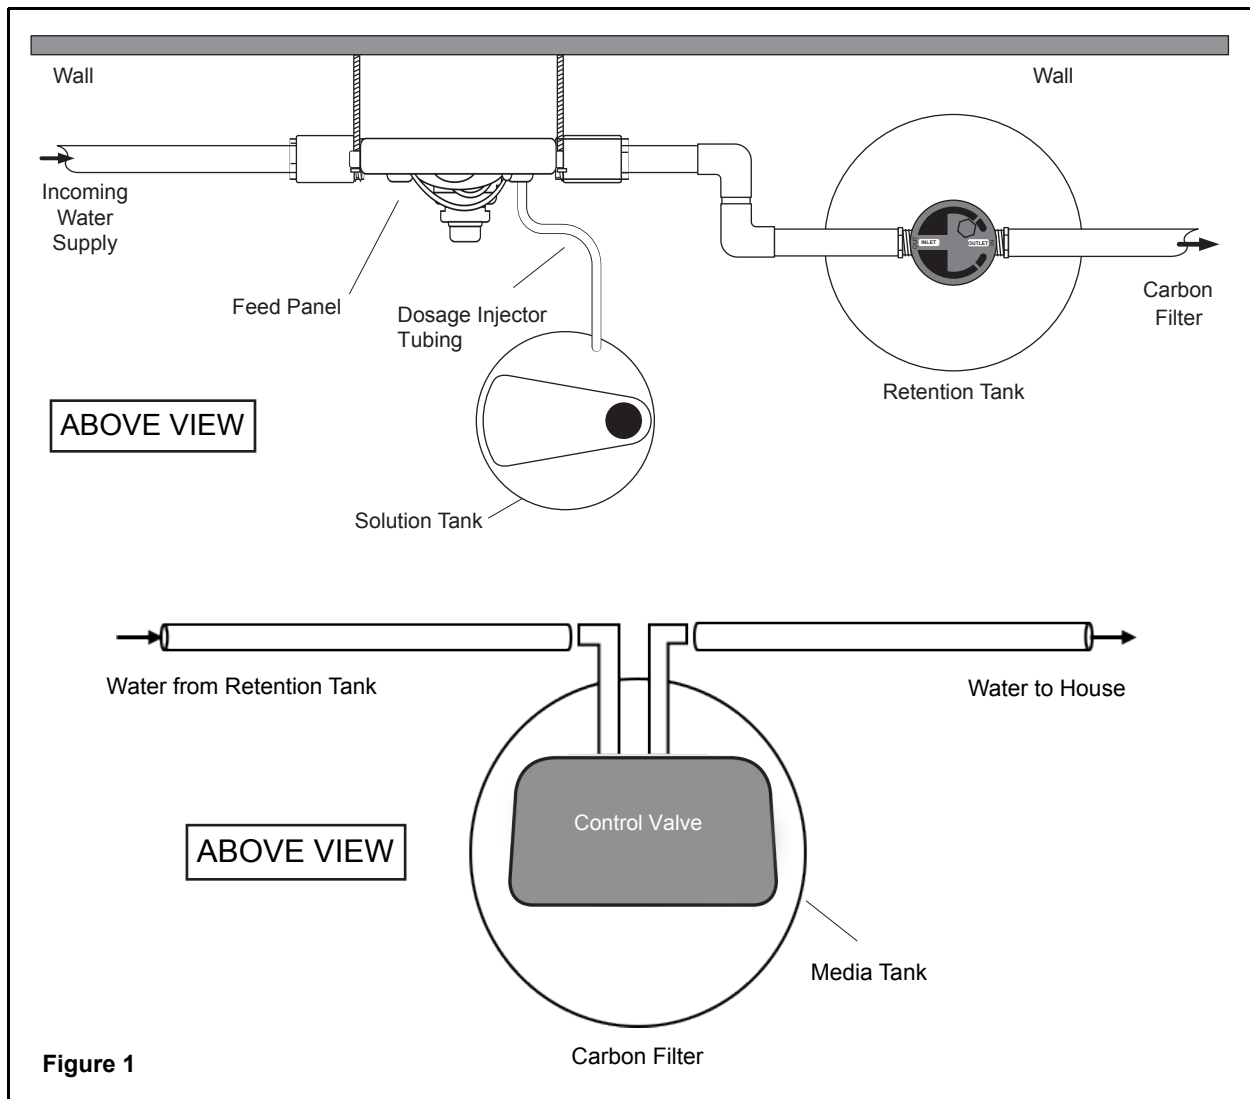

Figure 1
3. Connect the water line outflow from the water powered dosage injector to the inlet side of the retention tank (as seen in Figure 1). Connect the outlet side of the retention tank to the carbon filter if applicable. (See carbon filter manual for installation).